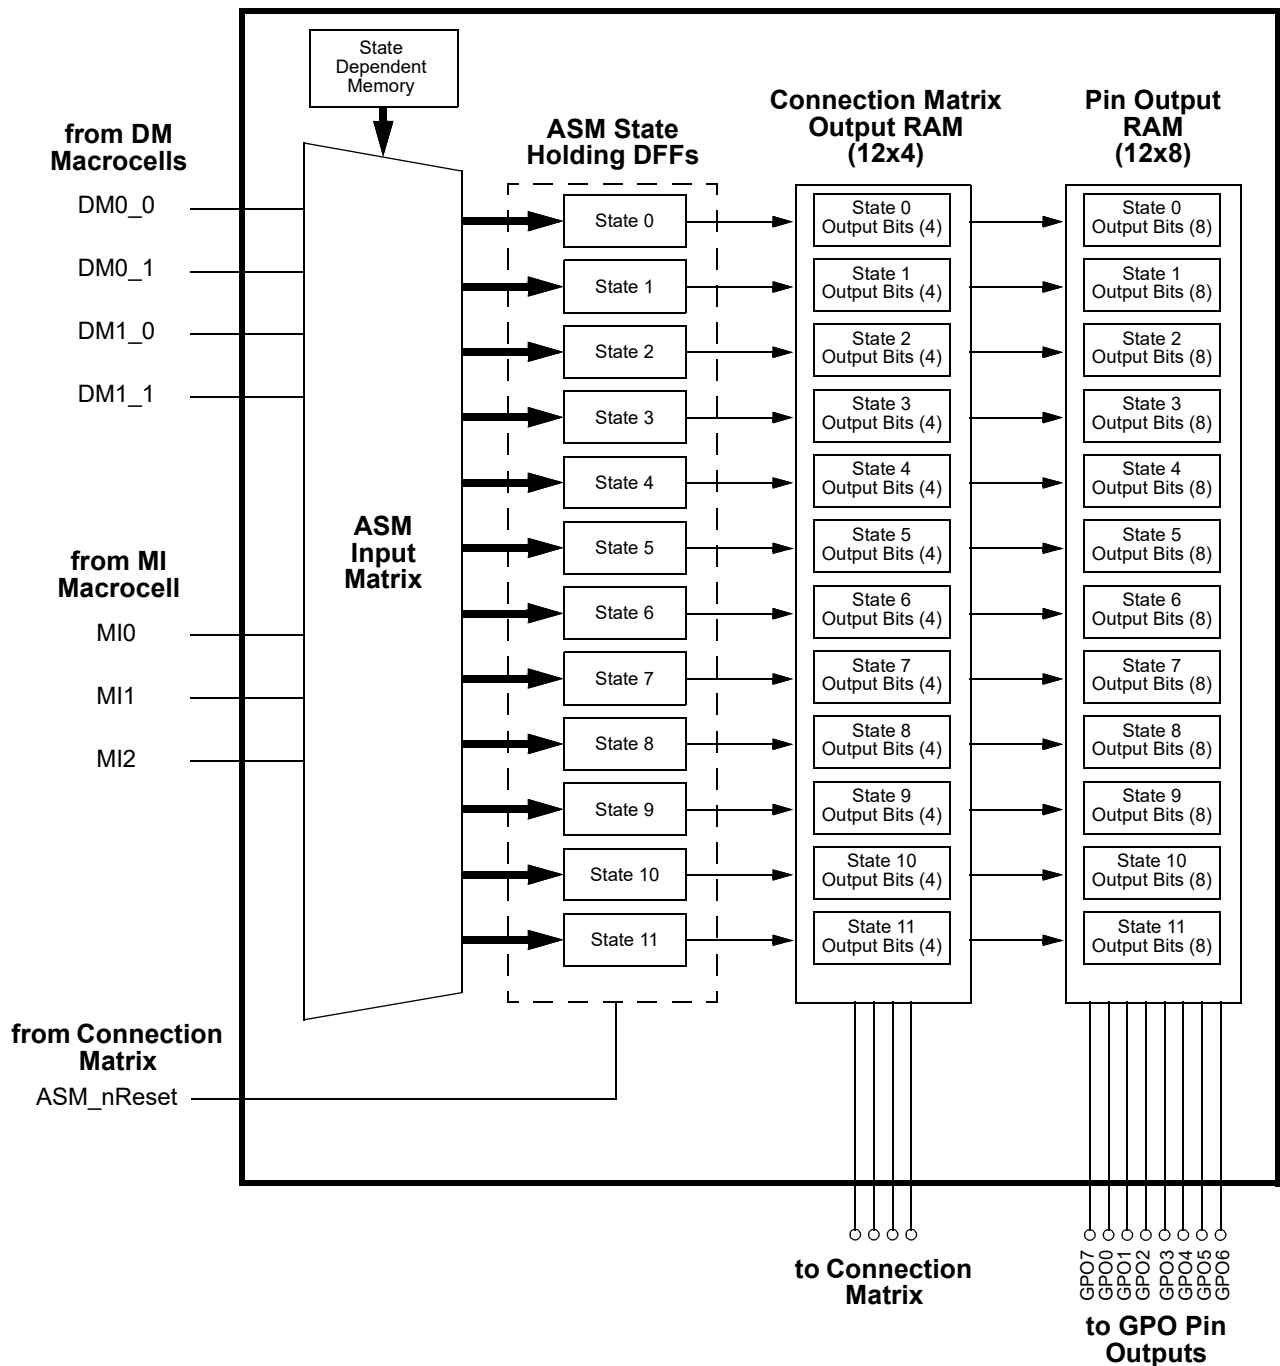

Figure 108: 12 State ASM Macrocell
The ASM macrocell has a total of 8 input signal lines, as shown in Figure 108, which come from a combination of three Matrix Interface (MI) macrocell outputs and DM macrocell outputs. Of these 8 inputs, 3 are user selectable inputs coming from the three Matrix Interface (MI) macrocells (one per macrocell) to the ASM macrocell. There are also 4 inputs that come from the DMx_x macrocells (one per macrocell). There is 1 ASM_nReset input that is for driving a state transition in the ASM macrocell to a user defined Initial/Reset state.
The GPAK Designer development tools support user designs for the ASM macrocell at both the physical level and logic level. Figure 108 is a representation of the user design at the logical level, and Figure 108 shows the physical resources inside the various macrocells in the ASM Subsystem. To best utilize this subsystem, the user must develop a logical representation of their desired state machine, as well as a physical mapping of the input and outputs required for the desired functionality.
The ASM macrocell has a total of 8 input signal lines, as shown in Figure 108, which come from a combination of Connection Matrix outputs and DM macrocell outputs.